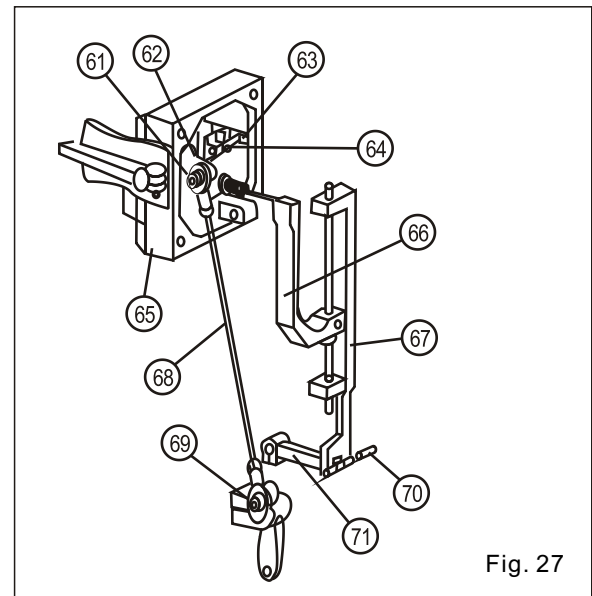

Fig. 27
Fig. 27 is the assembly drawing of sewing adjusting box. This drawing specifies the three cardinal areas of installation. Before adjusting the driving mechanism, check these cardinal areas first to make them back into normal status.
(1) Take the screw (No. 61 in Fig. 27) off from the joint bearing on driving rod (No. 62 in Fig. 27).
(2) Take the screw (No. 69 in Fig. 27) off from another joint bearing, and remove the connecting rod (No. 68 in Fig. 27).
(2) Take off the 4 screws (No. 65 in Fig. 27) on the sewing adjusting box.
If it is needed to adjust the three cardinal areas after checking, install the sewing adjusting box in sequences contrary to the disassembly. Before the sewing tension spring is placed, put the connecting bolt (No. 70 in Fig. 27) into the box first.